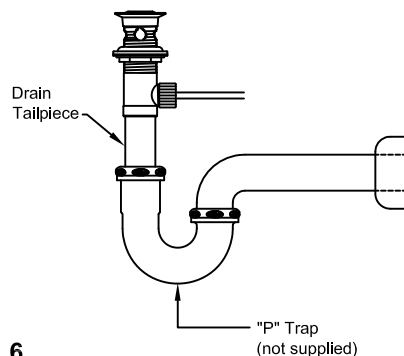

Fig. 6
- 8 Install "P" Trap (see Fig. 6):**